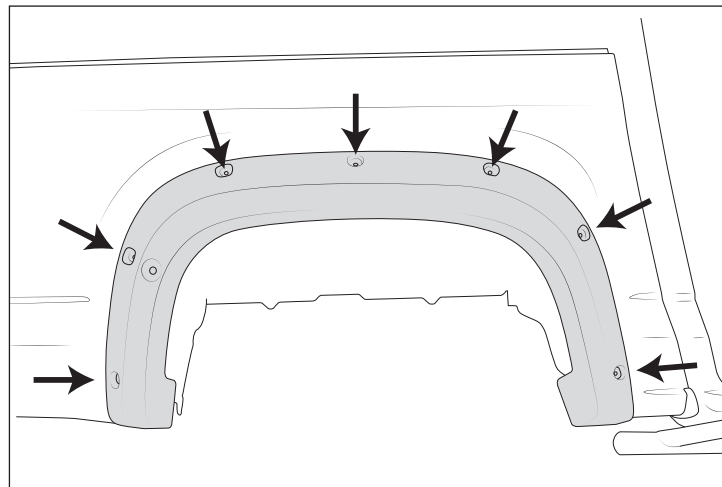

Figure 19
5. Hold flares to vehicles and center punch all holes using flare as template (fig. 19).